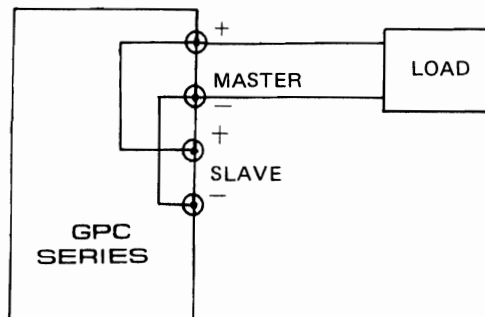

Fig. 5-5. Parallel Tracking Operation
- G. Connect the negative polarity of the device being powered to the black (-) terminal of the MASTER power supply. The configuration as shown in Fig. 5-5.